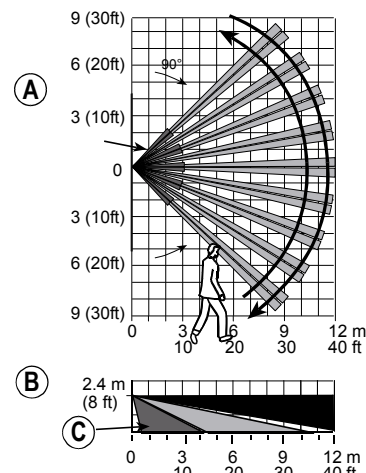

Fig. 5. Coverage Pattern & Walk-test
- D. Walk-test the coverage area - see Fig. 5. Walk across the far end of coverage pattern in both directions, The red LED lights each time your motion is detected followed by 3 LED blinks.